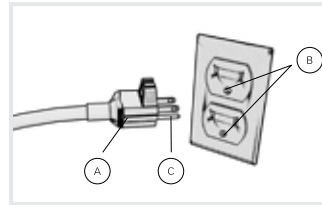
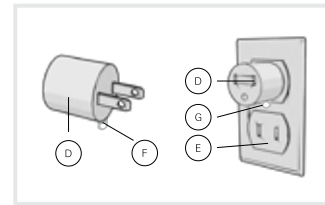

Fig. 1
Fig. 2
WARNING: Improper connection of the equipment-grounding conductor can result in the risk of electric shock. Check with a qualified electrician or service person if you are in doubt as to whether the outlet is properly grounded. Do not modify the plug provided with the appliance - if it will not fit the outlet, have a proper outlet installed by a qualified electrician. This appliance is for use on a nominal 120-volt circuit and has a grounding plug that looks like the plug (A) illustrated in Fig. 1. A temporary adapter (D) may be used to connect this plug to a 2-pole receptacle (E) if a properly grounded outlet (B) is not available (Fig. 2). The temporary adapter should be used only until a properly grounded outlet (B) can be installed by a qualified electrician (Fig. 1). The green colored rigid ear, lug, or the like (F) extending from the adapter must be connected to a permanent ground (G) such as a properly grounded outlet box cover (Fig. 2). Whenever the adapter is used, it must be held in place by a metal screw. NOTE: In Canada, the use of a temporary adapter is not permitted by the Canadian Electrical Code.